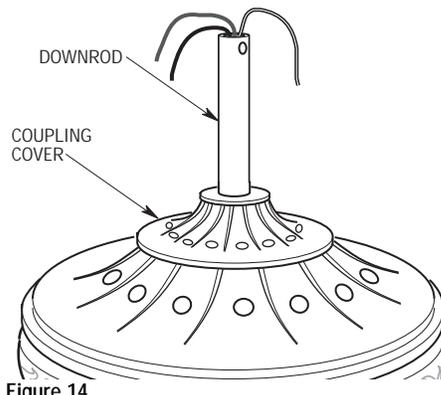

Figure 14
- 14. Slide the coupling cover down the downrod until it set firmly on the motor housing (Figure 14).